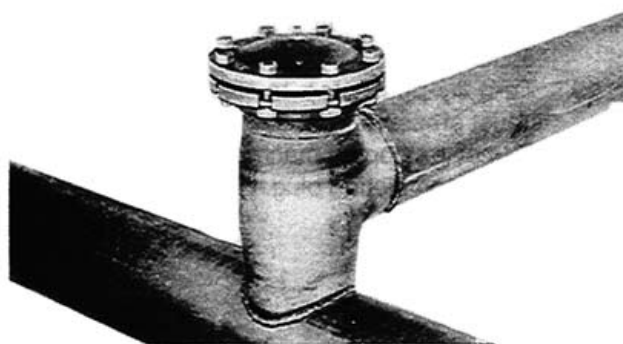

FIGURE 62
17. Bolt cap solidly to tee flange. **Figure 62.**